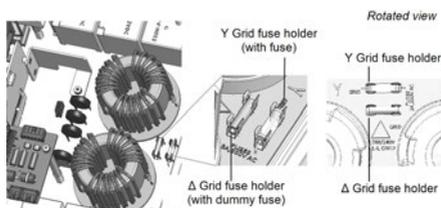

Figure 29: Fuse locations and markings
To set the inverter for 3-wire grid connection, you must move the fuse from the 4-wire fuse holder, marked as Y GRID, to the 3-wire fuse holder, marked as Δ GRID (see *Figure 29*).
1. Identify the fuse locations and the markings as described in *Figure 29*.